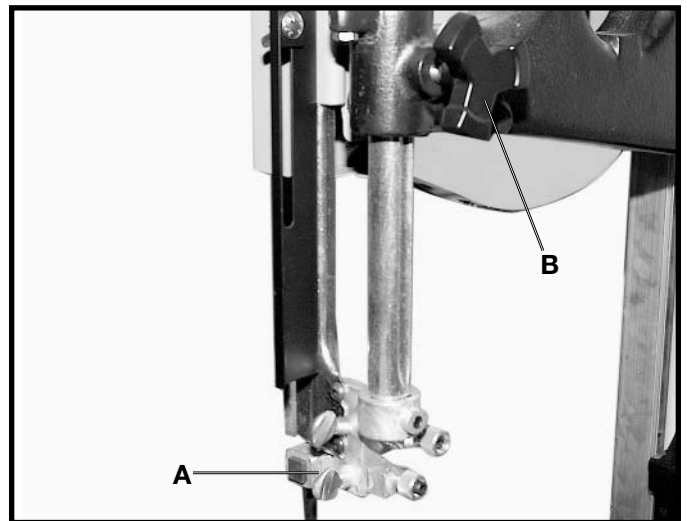

Fig. 33
Set the upper blade guide assembly (A) Fig. 33 as close as possible to the top surface of the workpiece. Loosen the lock knob (B) and move the guide assembly (A) to the desired position.